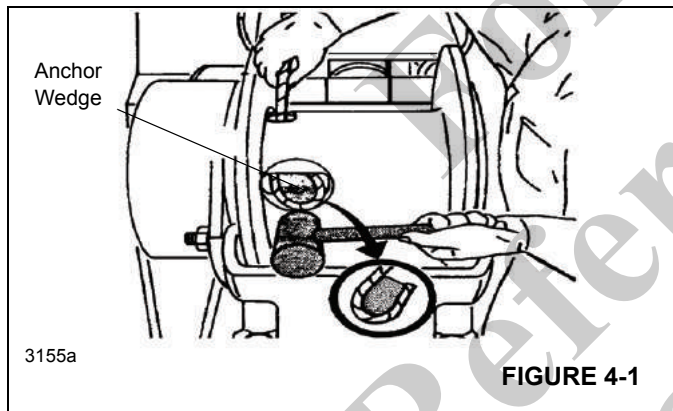

FIGURE 4-1
3. Insert the cable through the slot and position around the anchor wedge Figure 4-1.